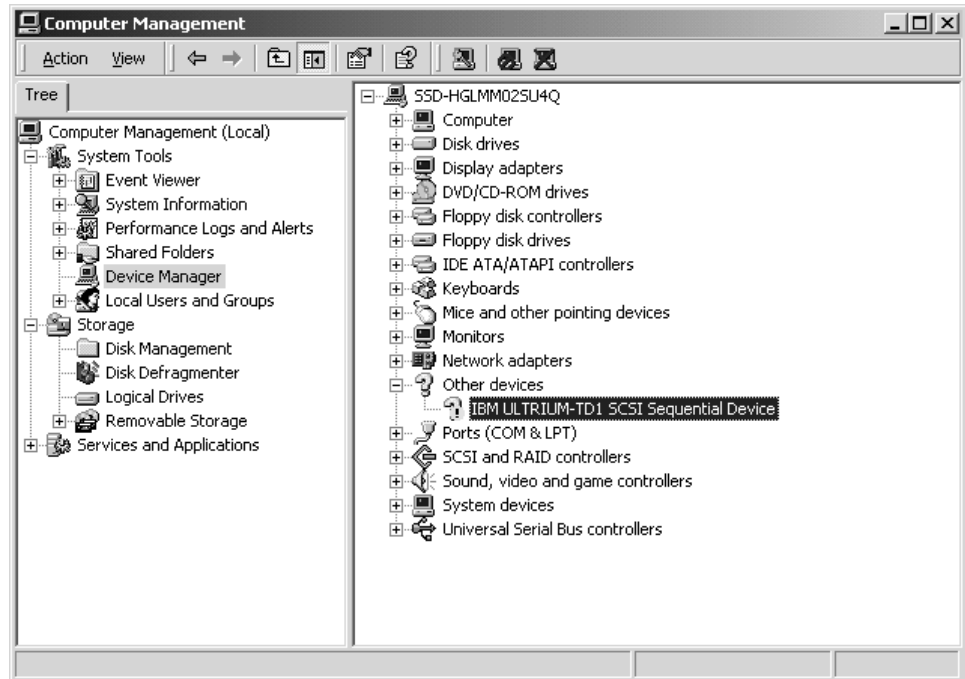

Figure 27. Computer Management Menu
7. If the Ultrium devices were powered-on and attached to your computer before you installed the Ultrium device driver, you may see them listed under **Other devices**. Medium changers may be listed as "Unknown Medium Changer Device" under the **Medium Changers** section. Tape drives may be listed under the **Tape Drives** section. The devices may be marked by a question mark. See Figure 27.